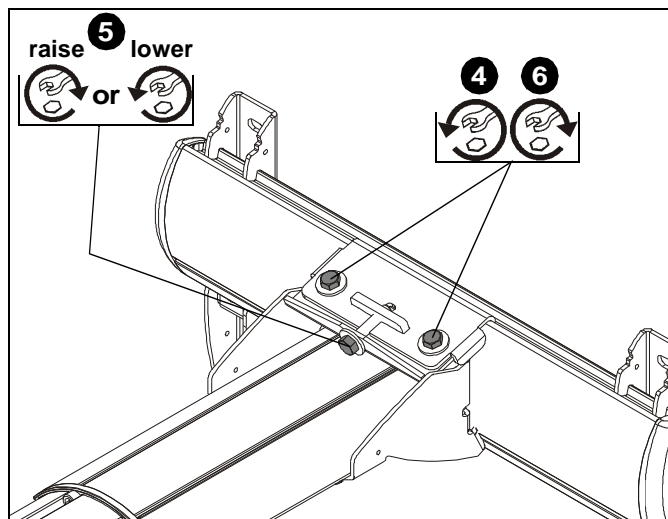

Figure 16
4. Loosen two bolts on either side of pitch adjustment screw. (See Figure 16)
5. Adjust pitch adjustment screw until mount is at desired pitch level. Turn clockwise to raise mounting level or turn counterclockwise to lower mounting level. (See Figure 16)
6. Tighten two bolts on either side of pitch adjustment screw. (See Figure 16)